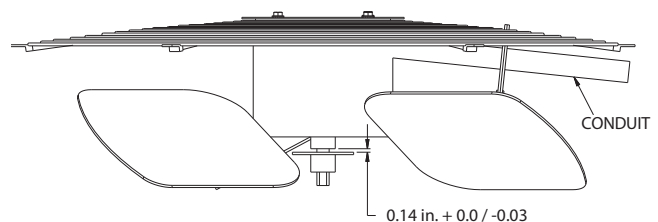

Fig. 33 — Condenser Fan Adjustment
4. Adjust fan height as shown in Fig. 33.